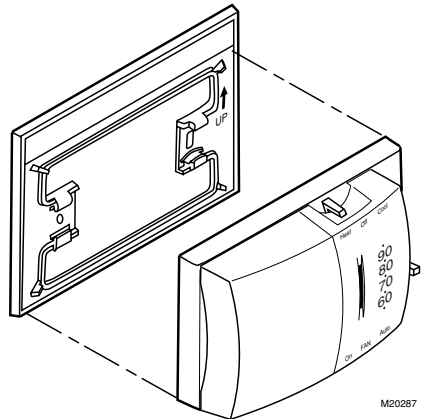

Fig. 2. Mounting T8034C Thermostat on wallplate.
If the horizontal wallplate is used, align the thermostat and wallplate. See Fig. 2. Press firmly together until wallplate snaps in place, then wire and mount the thermostat.
9. Adjust temperature setting lever so mercury bulb is in horizontal position as shown in Fig. 2.